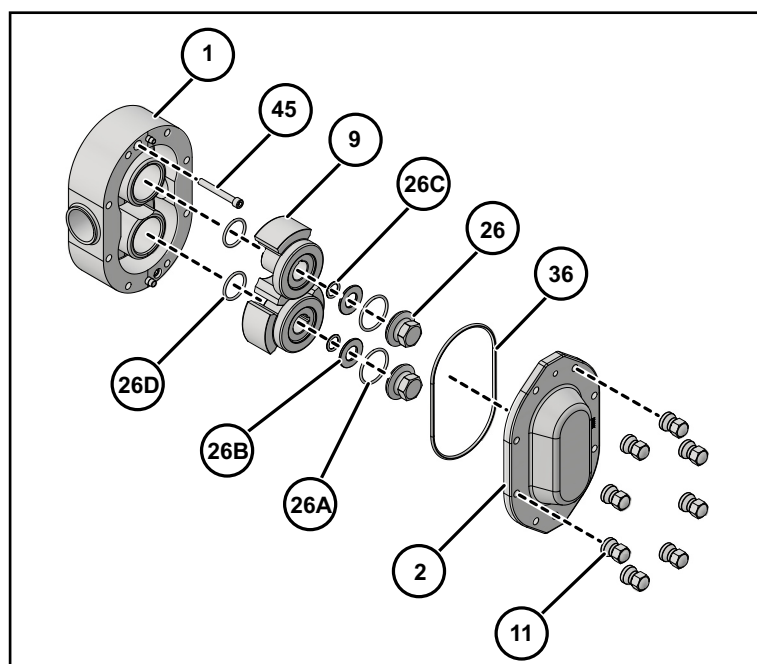
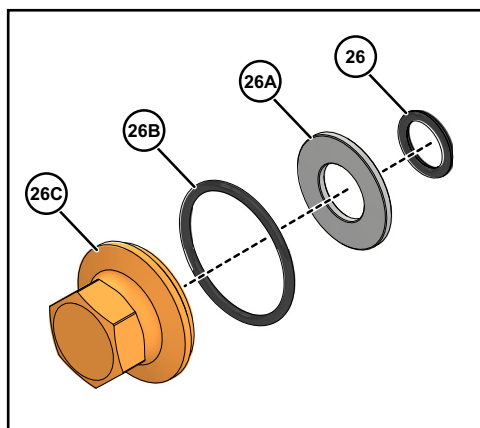
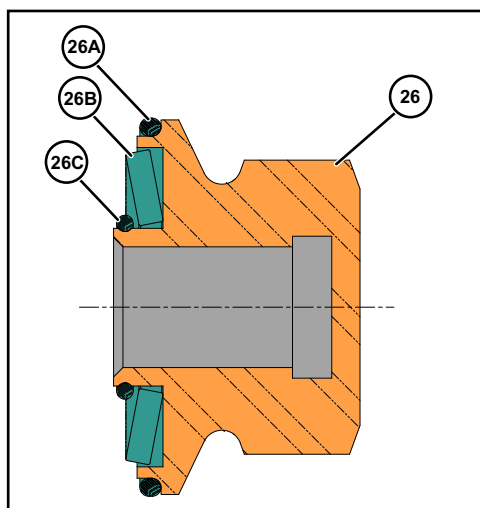

Figure 69 - Exploded View of Fluid Head
Figure 70 - Rotor Nut Assembly
Figure 71 - Cross-Section View of Rotor Nut Assembly, as Assembled
2. Install the body (Figure 69, item 1) to the gear case assembly, aligning the body with the body studs. Avoid damaging the seals as the body is drawn over the shafts.
3. Secure the body to the gear case using two cap screws (Figure 69, item 45).
1. Lubricate the rotor hub O-ring (Figure 69, item 26D) with a lubrication compound compatible with the O-ring material and process fluid(s).
2. Install new rotor hub O-rings (item 26D) into the groove on the rotor hubs.
3. Install the rotors (item 9) onto the shafts.
4. Align the keyways in the rotors with the keyways on the shafts and install the keys (item 26E).
NOTE: For rotor nut assembly detail, including orientation of the belleville-style washer (item 26B), see Figure 70 and Figure 71 on page 52.
See Figure 69 on page 51, and Figure 70 and Figure 71 on this page.
1. Clean the cover O-ring (See Figure 69 on page 51, item 36) and install it in the groove in the cover.
3. Install the cover (See Figure 69 on page 51, item 2) on the pump body.
5. Tighten the cover securely using the cover nuts (See Figure 69 on page 51, item 11) and Table 12.